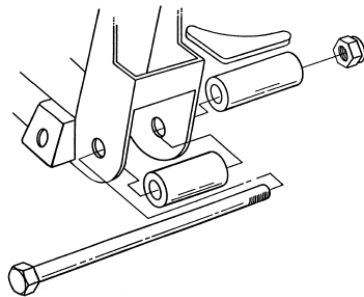

Figure 5- Crossmember Spacers Install
6. If you purchased a complete I.F.S. Package from *HEIDTS*, it was supplied with Full Lower A-Arms. Begin by installing the Spacers onto the crossmember. The holes where the lower control arms attach to the Crossmember must be enlarged to 5/8". Install the Crossmember Spacers and the Rear Spacers which were supplied with the Lower Control Arms onto the Crossmember as shown in **Figure 5** using the supplied Inner Bushing Bolts, Nuts and a temporary spacer under the Nuts. DO NOT use the A-Arms for this operation as the welding heat will melt the rubber bushings. Tighten the Bolts and Nuts tight. Weld the Rear Spacers to the Crossmember all around. Weld the Crossmember Spacers as far as possible inside the crossmember on both ends. Position the Gussets horizontally, not vertically, against the Rear Spacers and the back of the Crossmember. Weld Gussets to Spacers and Crossmember. When it cools, remove the bolt.